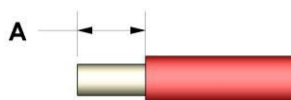

Figure 1
1. Strip wire per length specified in the table below (Figure 1)